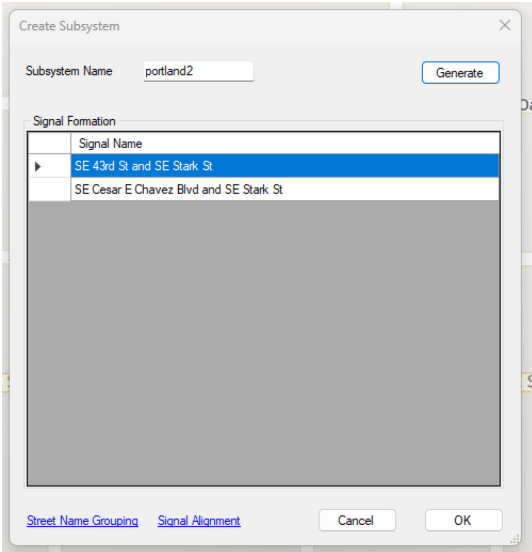

Figure 39: Creating Subsystems
- vi) Click “**OK**” and open the “**Create Subsystem**” window (Figure 39) where users can define the subsystem. Users can type in a name for the newly created subsystem in the previously selected signals will be listed in the “**Signal**